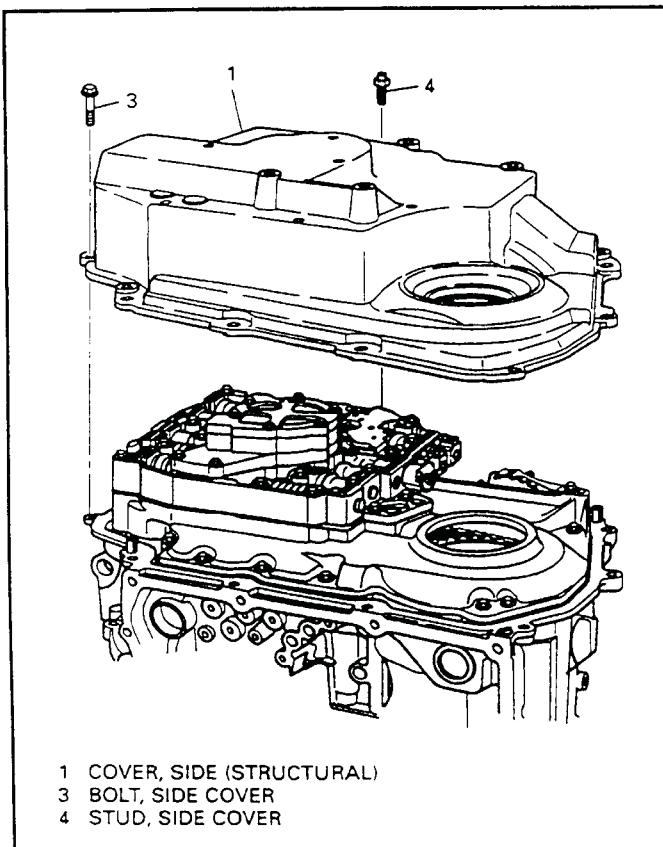

Figure 182
6. Install the side cover assembly onto transaxle case as shown in Figure 182.